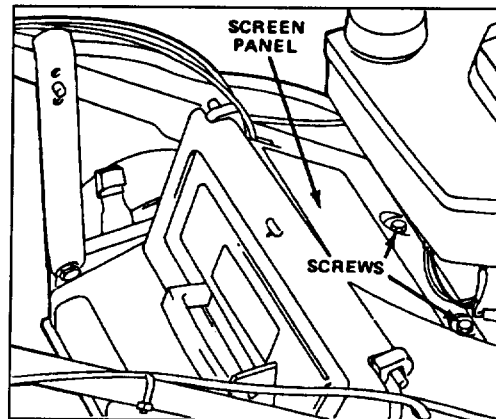

Figure 20
2. Remove (2) screws securing screen panel to top of mower housing (Fig. 20). Remove panel.